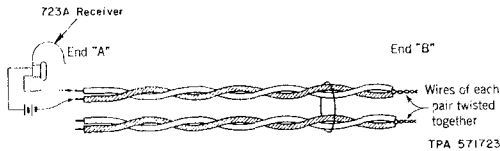

Fig. 5—Test For Crosses and Grounds
(A) connect all the bunches together and to the sheath (ground). Connect one side of the battery to the sheath and the other side to one terminal of a receiver. Connect the other side of the receiver to a pair of shears, as shown in Fig. 5.